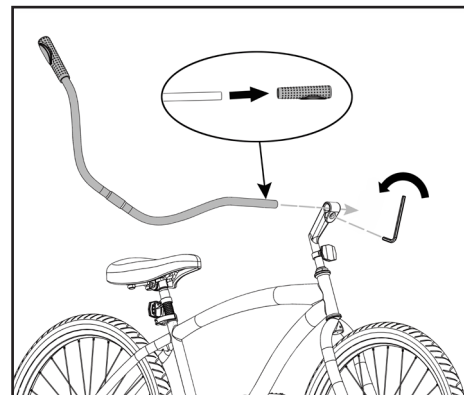

Figure 21
The handlebar may not already be installed on your bike from the factory. In that case you may need to install the handlebars onto the stem itself. To do so, simply remove the grips from one end of the handlebars by firmly gripping and twisting them off bit by bit. After this is done, loosen the stem clamp by unscrewing the stem clamp bolt with (C) an Allen Wrench. Slide the grip free end of the handlebars through the stem clamp until it is centered, aligning the markings on the handlebar with the stem clamp (see Figure 21).